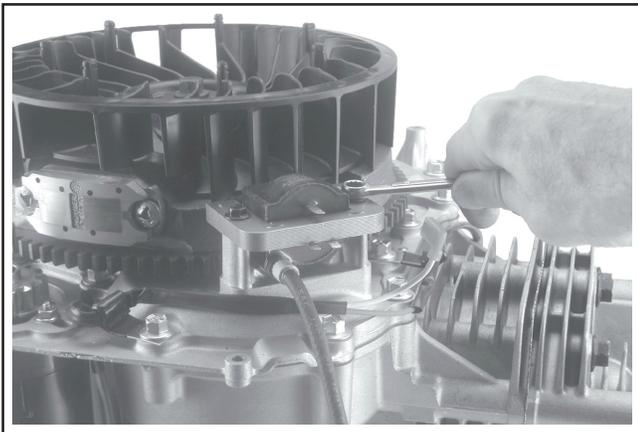

Figure 10-48. Installing Ignition Module.
1. Rotate the flywheel so the magnet is away from the ignition module bosses. Using the hex. flange screws, install the ignition module to the crankcase bosses with the "kill" terminal "up". Move the module as far from the flywheel as possible. Tighten the hex. flange screws sufficiently to keep the module in position. See Figure 10-48.